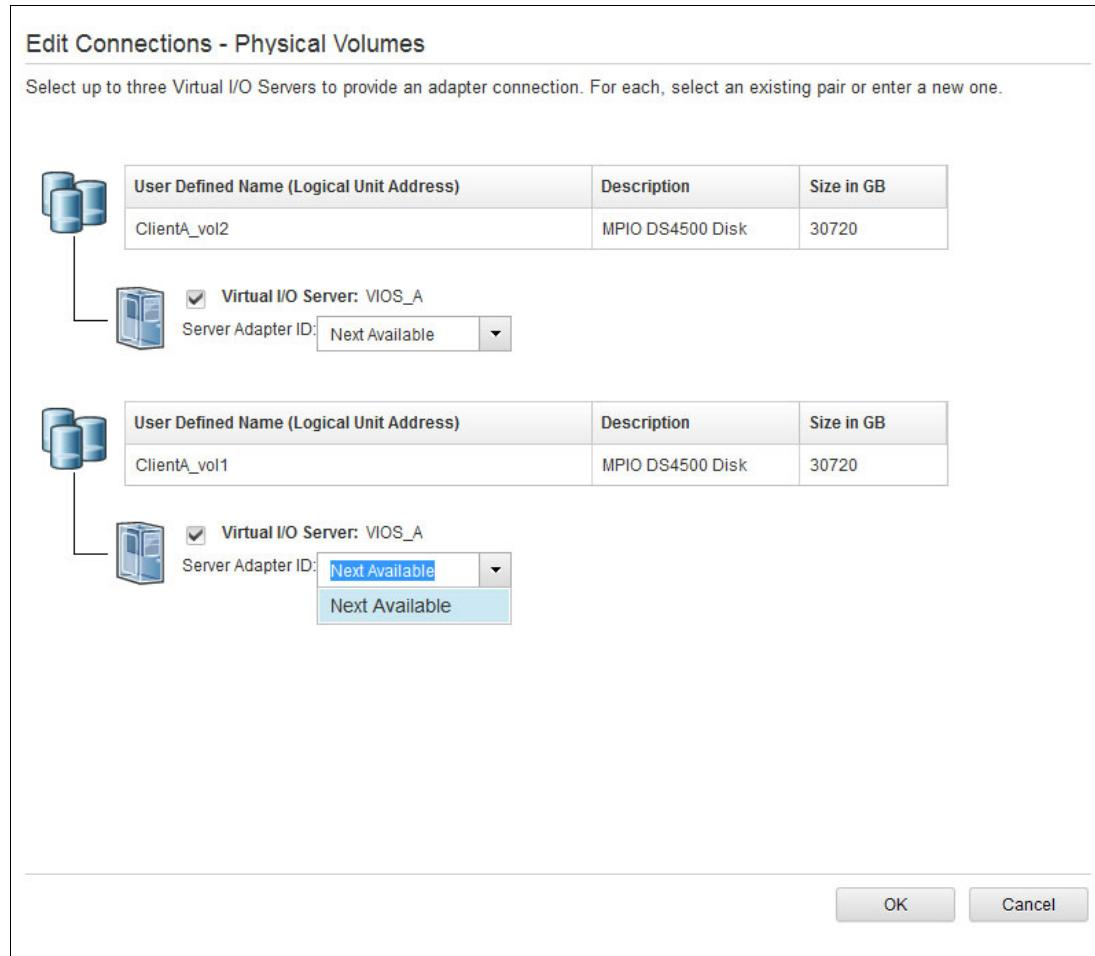

Figure 2-100 Deployment: Virtual SCSI connections - Multiple
9. The Edit Connections window opens (Figure 2-100). Use it to modify the virtual SCSI connections to the physical volumes that are specified, as shown in the figure.
- Figure 2-100 shows that each volume has its *own* virtual SCSI connection, which might not be the configuration you want.